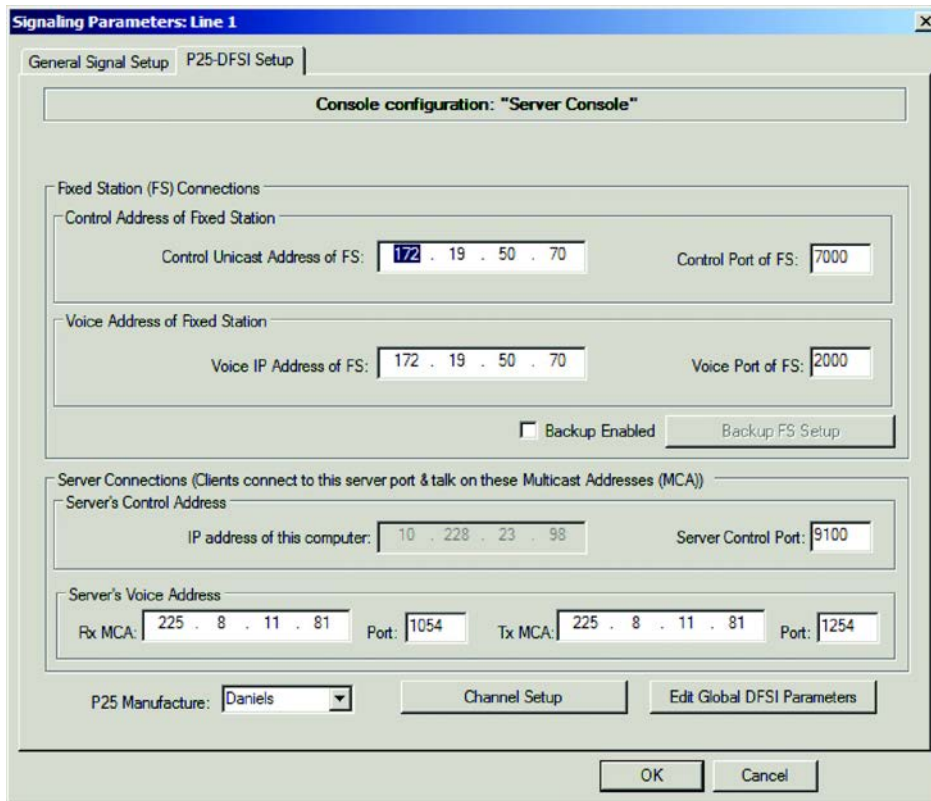

FIGURE 209. P25-DFSI- Server Console
The **Signaling Parameters** window, shown in Figure 209, is used to set up the Server Console Configuration. The Fixed Station (FS) Connection portion of the window is the same as that for a Stand Alone Console. As in the case of the “Stand Alone Console”, one (1) line of the Server Console connects to one (1) base station. The difference between the Stand Alone and Server is the client(s) now connect and talk to the server on a per line basis in order to control and communicate with the base station connected to this line.